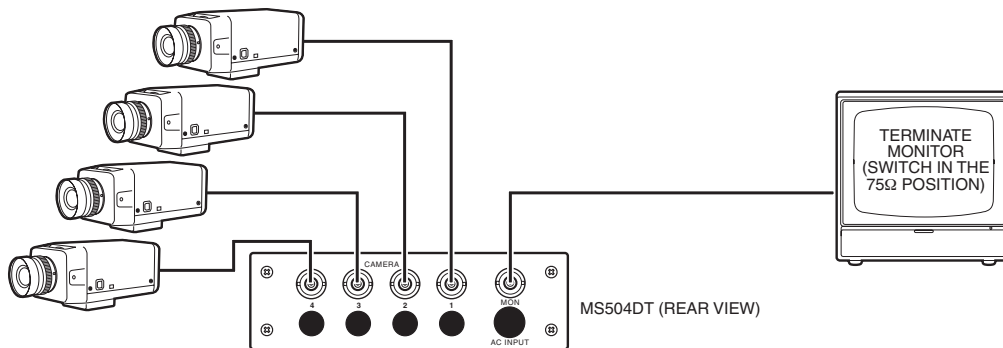

Figure 1. MS500 Series Switchers - Terminating Configuration
2. Refer to Figures 1 - 6 and select the desired configuration for your installation. Make all equipment connections as illustrated in the drawings. Refer to Table A for the type of coaxial cable to use.
When using non-looping switchers, the monitor should be terminated unless the looping output, if available, on the monitor is used. (Refer to Figures 1 and 2.)